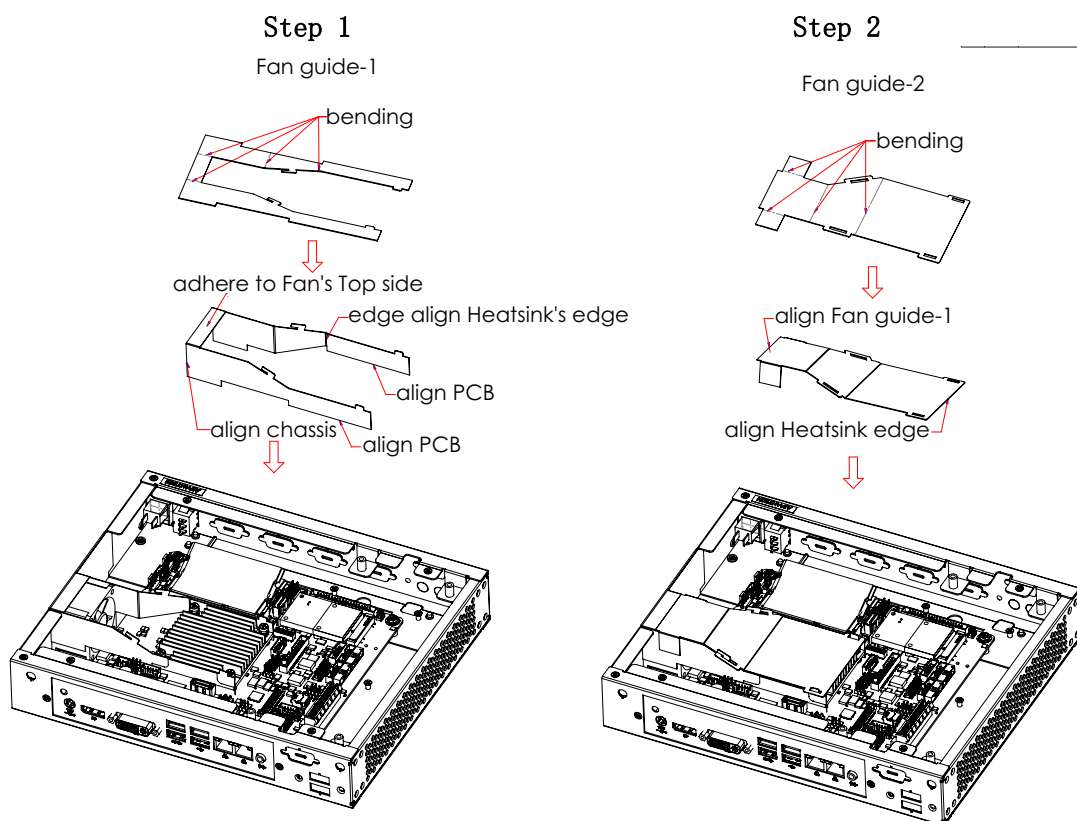

Figure 2.5 Assemble the Air Duct/ 组装导风罩 / 組裝導風罩
- Figure 2.5 Assemble the Air Duct/ 組裝导风罩 / 組裝導風罩 8